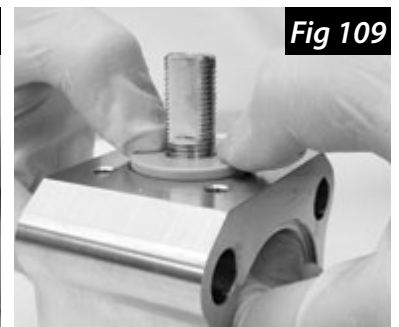

Fig 109
4. Place the upper PEEK stem bearing over the top of the stem. While holding the bottom of the stem, firmly press down on the upper PEEK bearing until it is fully seated (Fig 109).